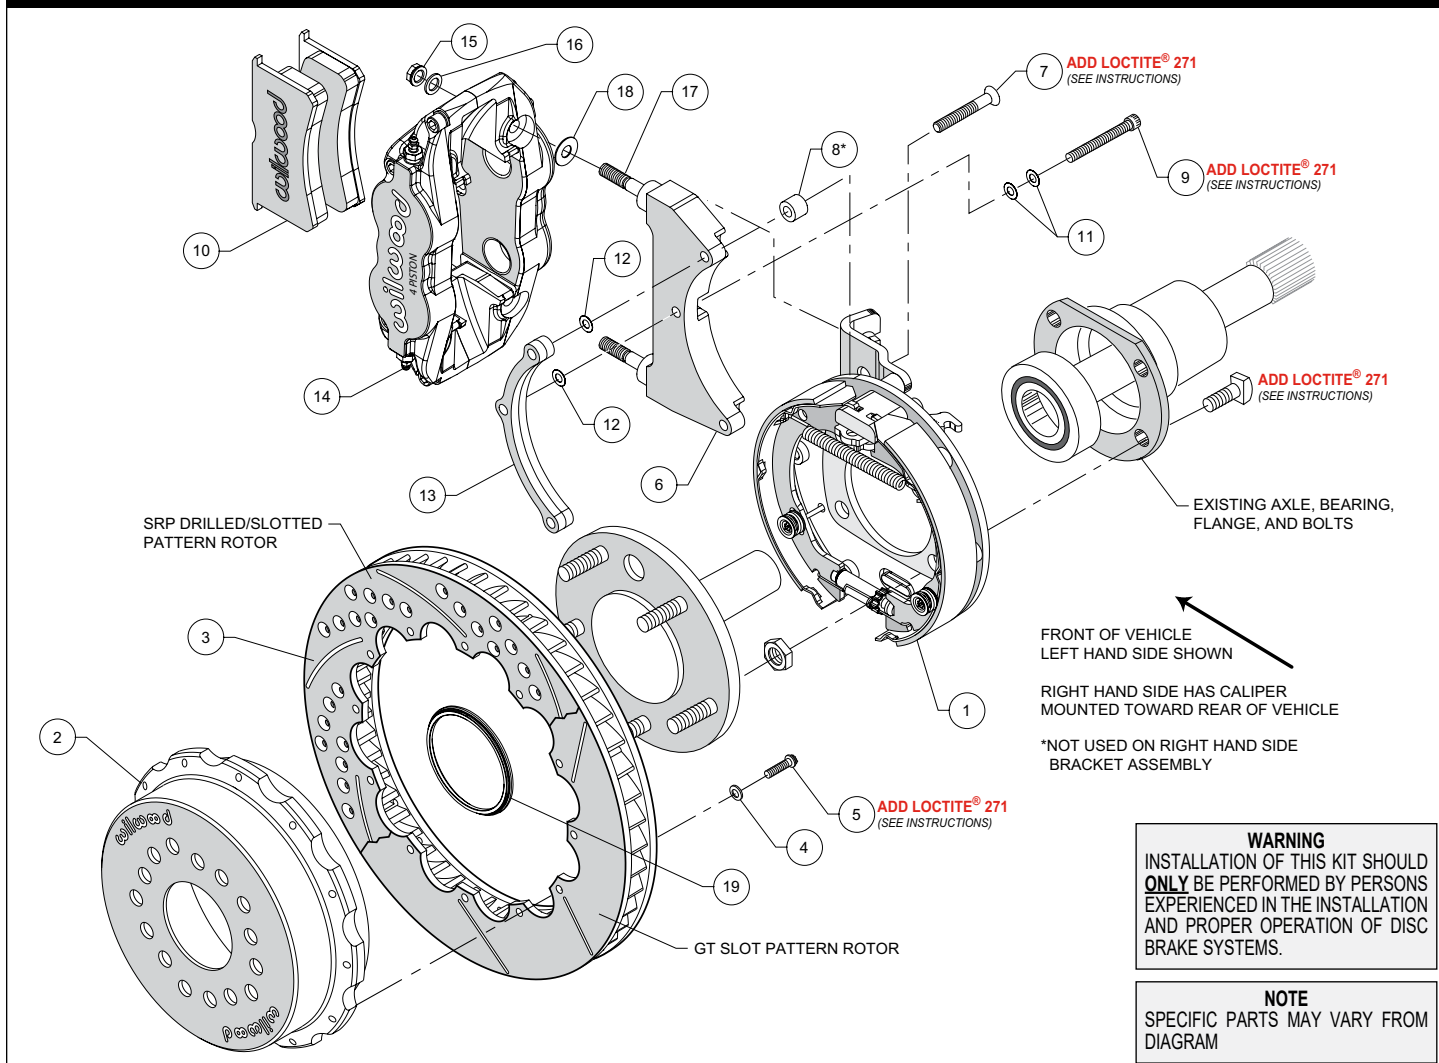
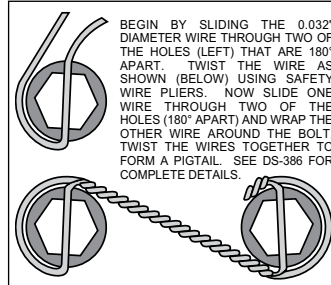

Figure 1. Typical Installation Configuration
Figure 4
Assembly Instructions (numbers in parenthesis refer to the parts list and Figure 1 on the preceding pages): **CAUTION:** All mounting bolts must fully engage threaded holes.
- Orient the bracket assembly (1), as shown in Figure 1, and mount to the axle housing flange using the Original Equipment Manufacturer (OEM) bolts and nuts, Figure 1. Ensure that the bracket assembly backing plate fits flush against the axle housing flange. Apply red *Loctite*® 271 to the OEM bolt threads and torque to OEM specifications.
- **NOTE:** Please reference the caution statement at the beginning of the assembly instructions. The caliper mounting bracket assembly (6) should initially be installed with clean, dry threads on the mounting bolts. **NOTE:** The caliper bracket must tighten squarely against the back side of the bracket kit assembly (1). The ends of the bolts should not exceed inside face of insert. Later, after the caliper alignment has been checked, the mount bolts will be secured using red *Loctite*® 271.
Left Hand Side - Orient the left hand bracket (6) and 3-hole spacer (13) as shown in Figure 1 and Photo 1, and install using bolts (9) and two washers (11) in the middle and lower hole locations, Figure 1. Use bolt (7) in the upper hole with spacer (8) placed between the bracket (6) and the cable stop bracket, Photo 1. Initially place one .015" shim washer (12) on each of the three bolts between the bracket and 3-hole spacer, Figure 1. Temporarily tighten the mounting bolts.
- Orient the rotor (3) and the hat (2) as shown in Figure 1 and Photo 3. Attach rotor to hat using bolts (5) and washers (4). Apply red *Loctite*® 271 to the bolt threads and torque to 155 **in-lb** using a criss-cross pattern. For an added measure of security, the bolts may be safety wired using standard 0.032 inch diameter stainless steel safety wire as shown in Figure 4. Please refer to Wilwood's data sheet DS-386 (available at www.wilwood.com/Pdf/DataSheets/ds386.pdf) for complete safety wire installation instructions.
- Slide the rotor registration adapter (19) onto the axle register on the axle flange with the smaller O.D. facing toward the rotor/hat (2/3), Photo 4. Align the correct hole pattern in the hat with the stud pattern on the axle flange and slide into place, Figure 1 and Photo 5. **NOTE:** The rotor/hat must fit flush against the axle flange or excessive rotor run out may result. Install three lug nuts (finger tight) to keep the rotor/hat assembly in place while continuing with the installation. **NOTE:** Some OEM and after market axles come with stud sizes larger than 0.50" diameter. Verify stud size and have a qualified machine shop drill the bolt circle of the hat/rotor to the correct stud size, if necessary.